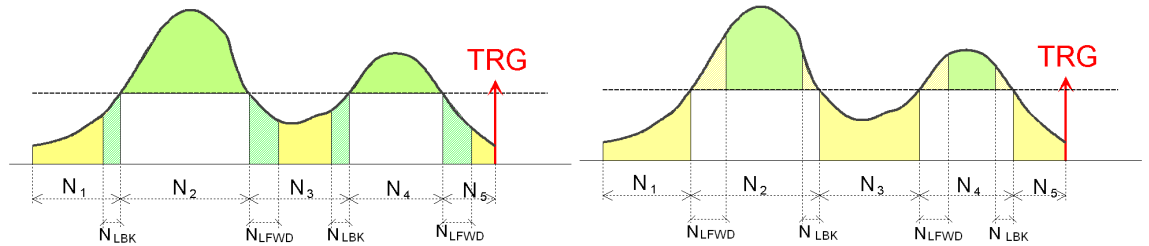

Fig. 8.9: Example of non-overlapping N_{LBK} and N_{LFW} in case of positive logic (left) and negative logic (right).
1. In the simplest case N_{LBK} and N_{LFW} **do not overlap**. Fig. 8.9 reports the case of positive logic on the left, and negative logic on the right. The green areas correspond to the over threshold samples, while the yellow ones correspond to the under threshold samples: